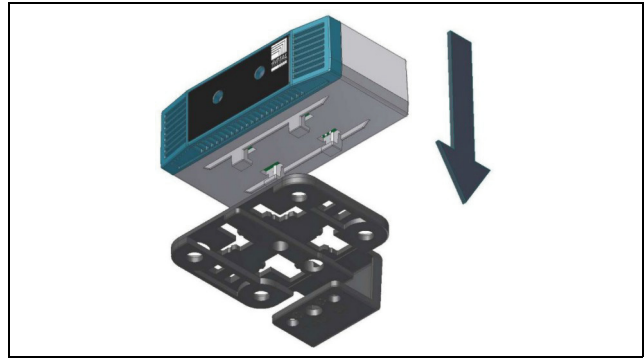
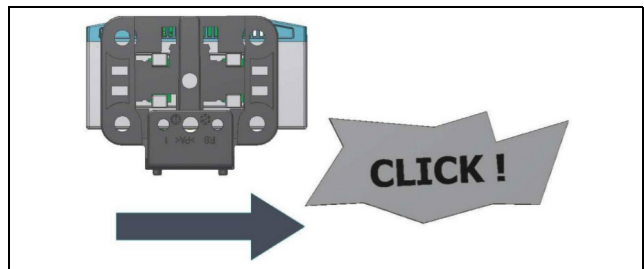

Fig. 2: Attaching the sensor to the bracket
Fig. 3: Latching the sensor into place on the bracket
- Then place the temperature/humidity sensor on the bracket (fig. 2) and latch it in place (fig. 3).